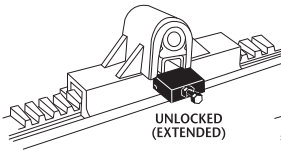

FIGURE 4A
4. Visually check that both plungers are fully extended, as shown in *Figure 4A*.